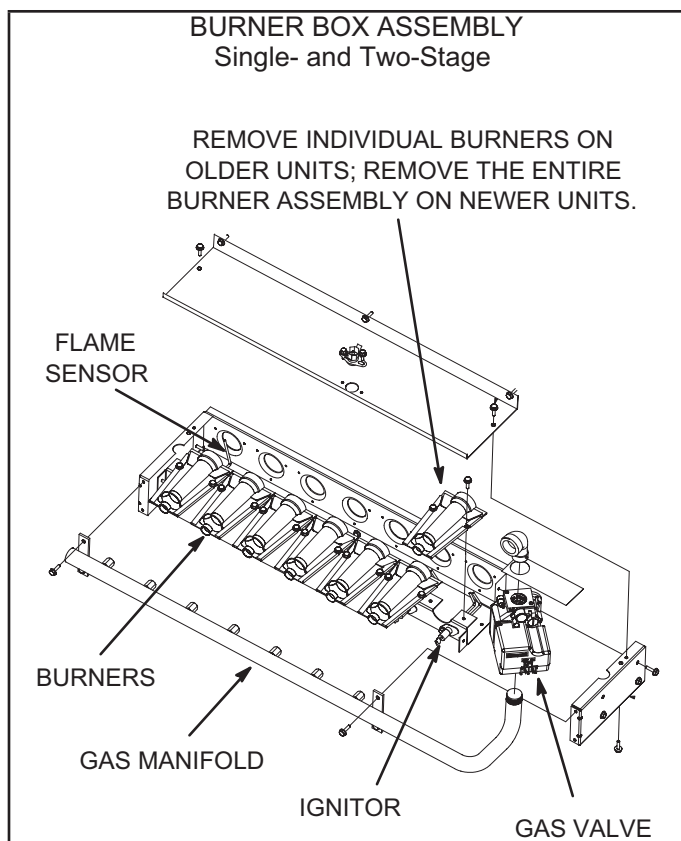
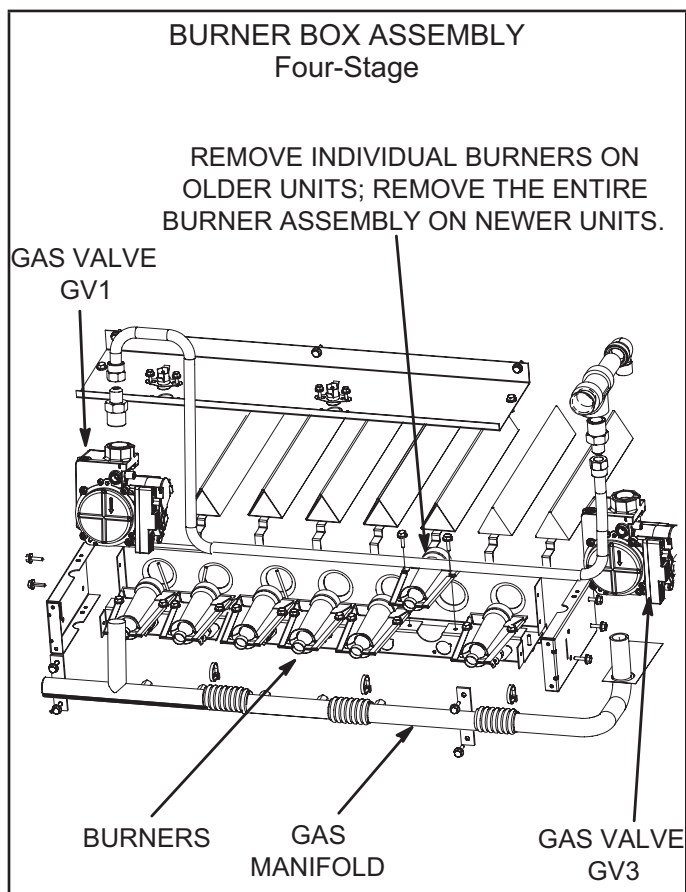

FIGURE 32
FIGURE 33
- 4 - Remove screws securing burners to burner support and lift the individual burners or the entire burner assembly from the orifices. See FIGURE 32 or FIGURE 33. Clean as necessary.